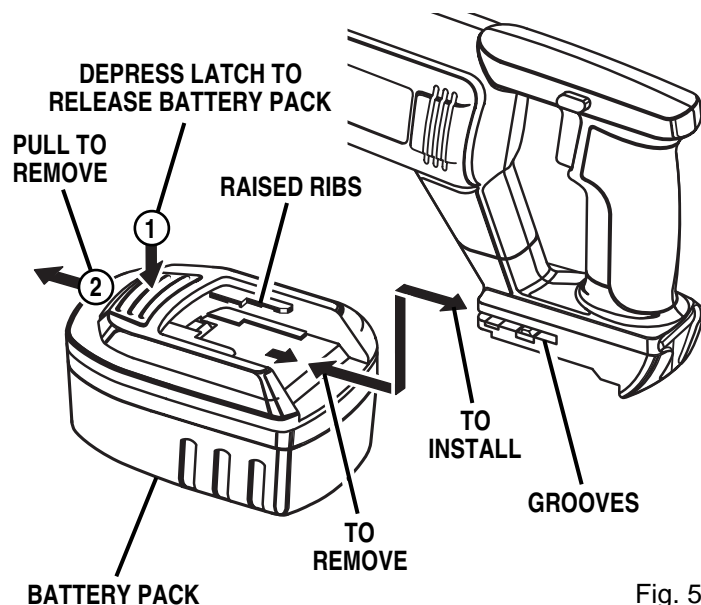

Fig. 5
See Figure 5.
- Align raised ribs on battery pack with grooves on bottom of saw, then attach battery pack to saw as shown in figure 5.
- Remove battery pack. See Figure 5.